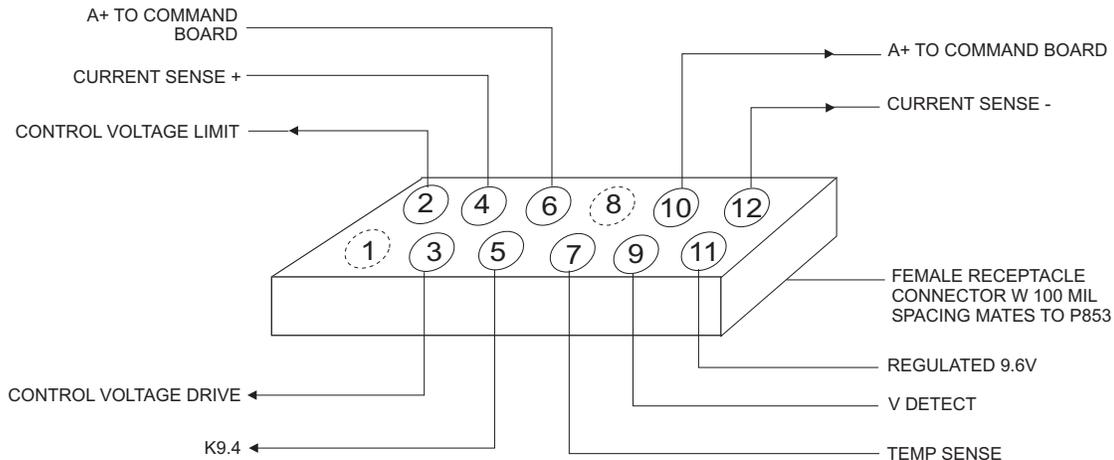

Figure 4-6. PA Test Adapter, 50 Watt Power Amplifier
2. Apply the input power and DC voltages indicated in Table 4-14 to the power amplifier assembly. To make the DC connections, use small spring clips or make a test adapter similar to that shown in Figure 4-6.